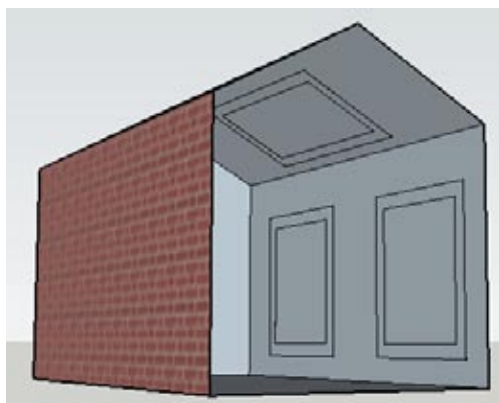

Figure 8-38
2. Orbit to see the inside view of the windows and skylight (Figure 8-38). All faces are painted with the default material.